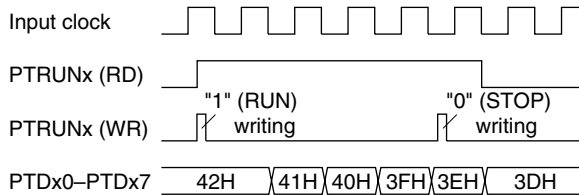

Fig. 4.11.11.1 Timing chart for RUN/STOP control
- (2) The programmable timer actually enters RUN/STOP status in synchronization with the falling edge of the input clock after writing to the PTRUN_x register. Consequently, when "0" is written to the PTRUN_x register, the timer enters STOP status at the point where the counter is decremented (-1). The PTRUN_x register maintains "1" for reading until the timer actually stops. Figure 4.11.11.1 shows the timing chart for the RUN/STOP control.